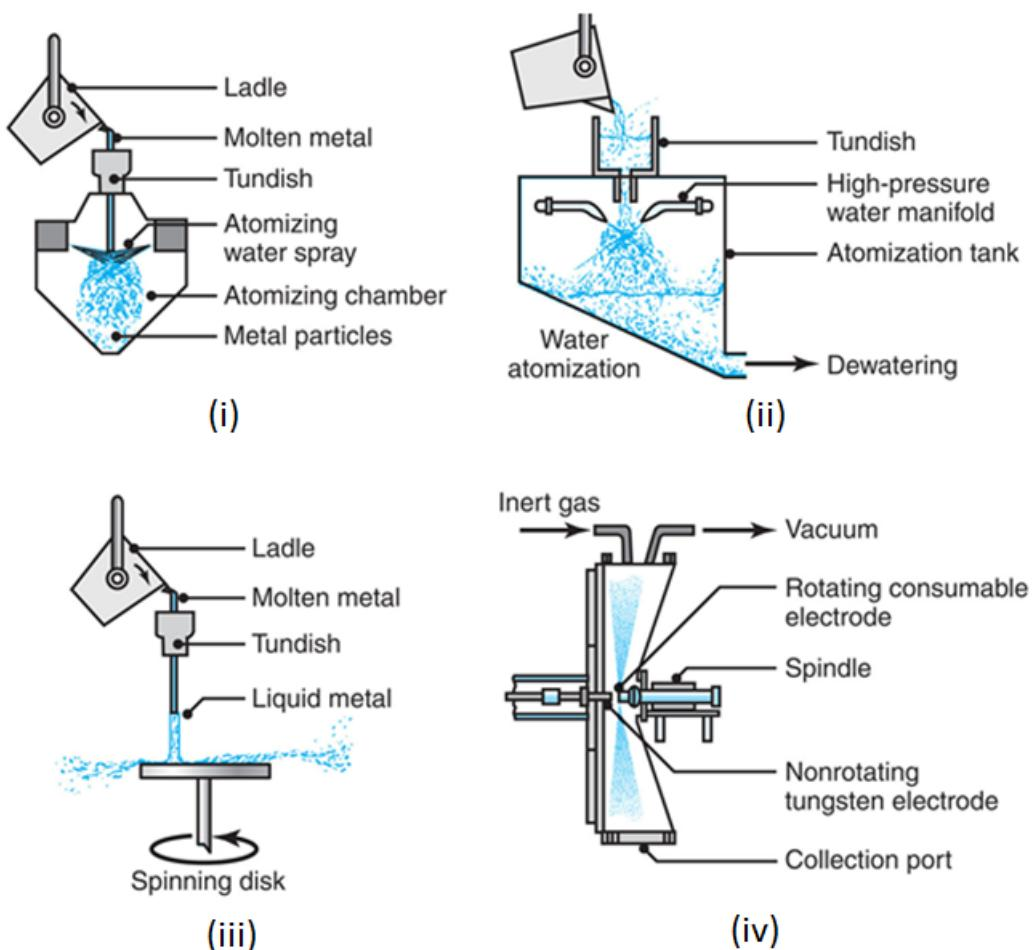

Figure Q1[a]
- Q1. [a]** Figure Q1[a] shows the methods of metal powder production by atomization. State and describe each of the processes.